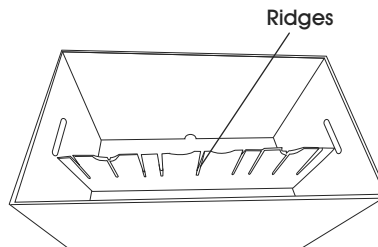

Figure 26
3. Insert long divider into the box as needed, ridges facing upward. (See Figure 26)